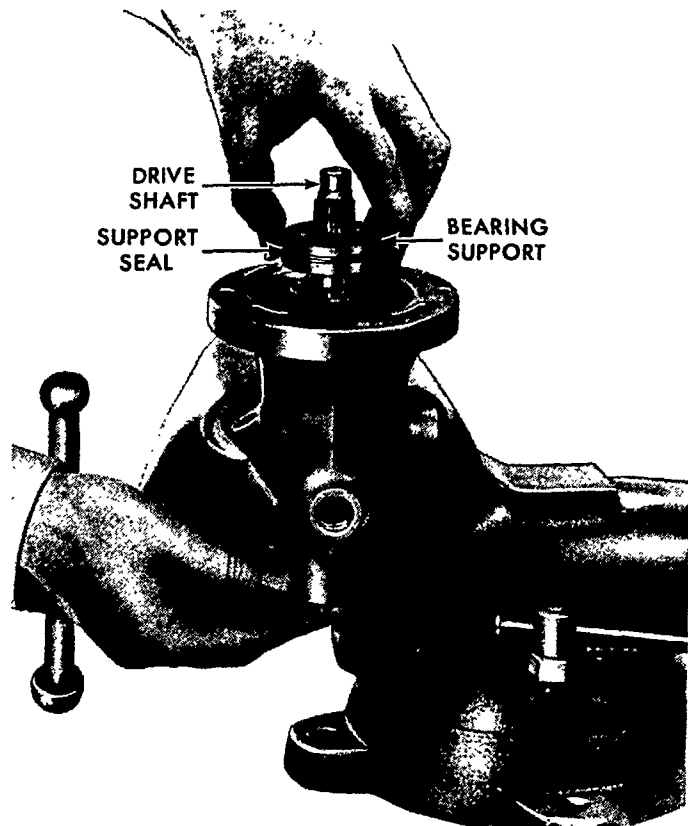

Figure 98
5. Place the bearing support over the end of the drive shaft, Figure 98, and push the spool and outer shaft upward until the bearing is engaged with the drive shaft. Then, push the entire assembly downward being careful that the bearing support does not bind in the bore. Use extreme care that the support seal is not damaged. Push the support downward until it is bottomed.